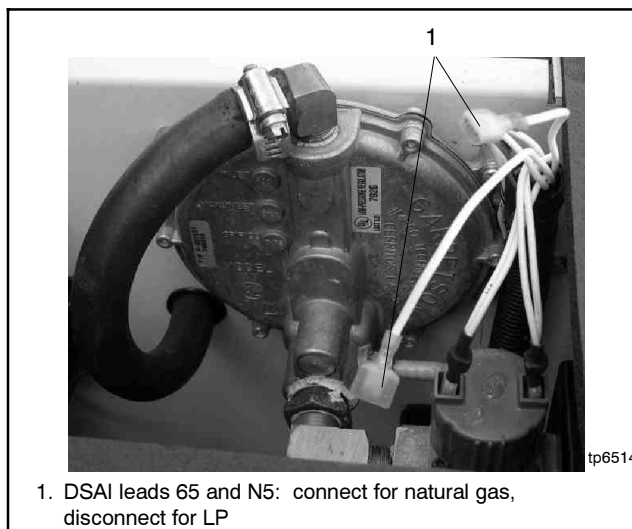

Figure 5-34 Digital Spark Advance Ignition Timing Leads (located in generator set air intake area)
8. Disconnect digital spark advance ignition (DSA) timing leads 65 and N5 for LP. See Figure 5-34.
The digital spark advance ignition (DSAI) optimizes the engine timing for the selected fuel, natural gas or LP. The location of the DSAI timing leads is shown in Figure 5-34. Connect the DSAI leads in the air intake compartment together for natural gas fuel. Disconnect the leads if LP is used. See Figure 5-34 and Figure 5-35.